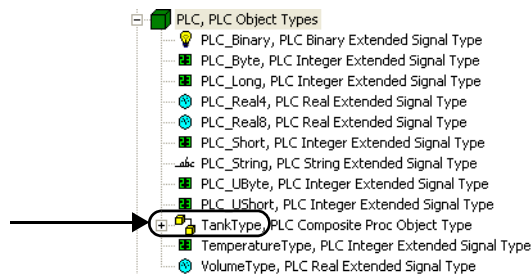

Figure 4. Created Composite Process Object Type
11. Click **OK**. The new type is created as part of the PLC branch object, see also Figure 4.